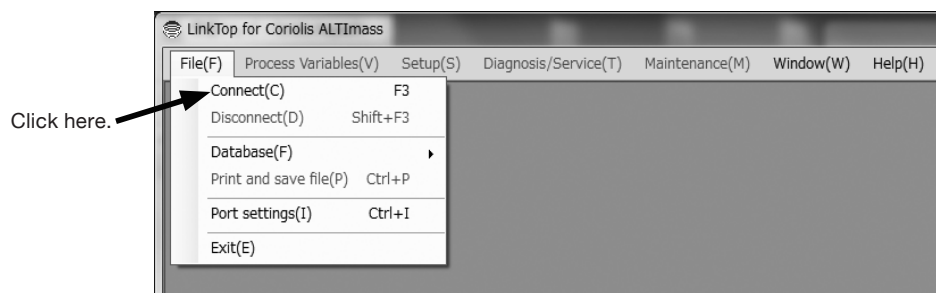

Fig.14
- ① Click on "File (F)" at top-level menu on the screen as shown in Fig. 14, and select "Disconnect (D) Shift + F3".